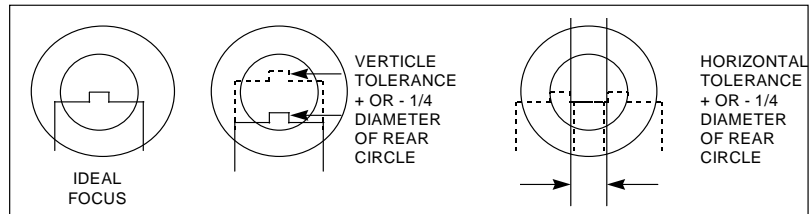

Figure 3-44
- d. Using a 5/32 Allen wrench, adjust the height of the three legs of the Lampchanger Plate until the focus fixture tip is centered in the hole in the lens, as shown in Figure 3-44.